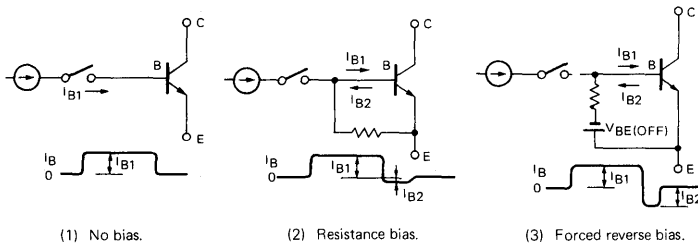
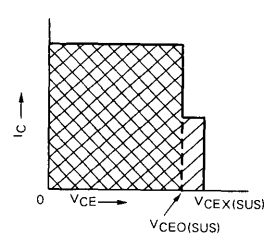
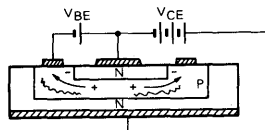

Fig. 5 Biasing methods for turning off the emitter-base junction.
Fig. 6 Reverse bias safe operating area.
Fig. 7 Pinch-in Effect.
The sustaining voltage between collector and emitter of (1) to (3) of Fig. 5 are $V_{CEO(SUS)}$, $V_{CER(SUS)}$, and $V_{CEX(SUS)}$ respectively, and these form the reverse bias safe operating areas.
In Fig. 6 the portion marked $\backslash\backslash\backslash\backslash$ is the safe operating area formed by $V_{CEO(SUS)}$, and this is the criterion for safe operation in the case of (1), No bias, in Fig. 5. Also, the portion marked $////$ in Fig. 6 is the safe operating area formed by $V_{CEX(SUS)}$ which is the criterion for safe operation in the case of (3), Forced reversed bias, in Fig. 5. Generally, there is a relationship of $V_{CEO(SUS)} < V_{CER(SUS)} < V_{CEX(SUS)}$ between $V_{CEO(SUS)}$, $V_{CER(SUS)}$, and $V_{CEX(SUS)}$. However, since the value of $V_{CER(SUS)}$ may become $V_{CEO(SUS)} \leq V_{CER(SUS)}$ according to the values of the resistance and the collector current, in the case of (2), Resistance bias, in Fig. 5, similarly to the case of (1) No bias, the criterion of safe operation is the safe operating area formed by $V_{CEO(SUS)}$ that is shown by $\backslash\backslash\backslash\backslash$ in Fig. 6.
Since it is necessary to shorten the storage time t_{STG} and fall time t_f in switching regulators, it is usual to apply forced reverse bias to the emitter-base junction, as shown in (3) of Fig. 5, so from this standpoint the safe operating area formed by $V_{CEX(SUS)}$ is the most important. In this case, the higher the reverse bias voltage the shorter will be the switching time, however, since the forward bias will tend to collect at the center of the emitter and the collector current will be concentrated at this point, breakdown will be liable to occur through the pinch-in effect shown in Fig. 7. Therefore, it is necessary that the condition of the reverse bias be below that of the measurement of $V_{CEX(SUS)}$ in the data sheets. (conditions: $V_{BE(OFF)} < -5V$, $I_{B2} < I_{B1}$ defined in spec.) Since the assurance of $V_{CEX(SUS)}$ is performed at the high temperature of $T_a = 125^\circ C$, derating according to the junction temperature is not required for the reverse bias safe operating area.